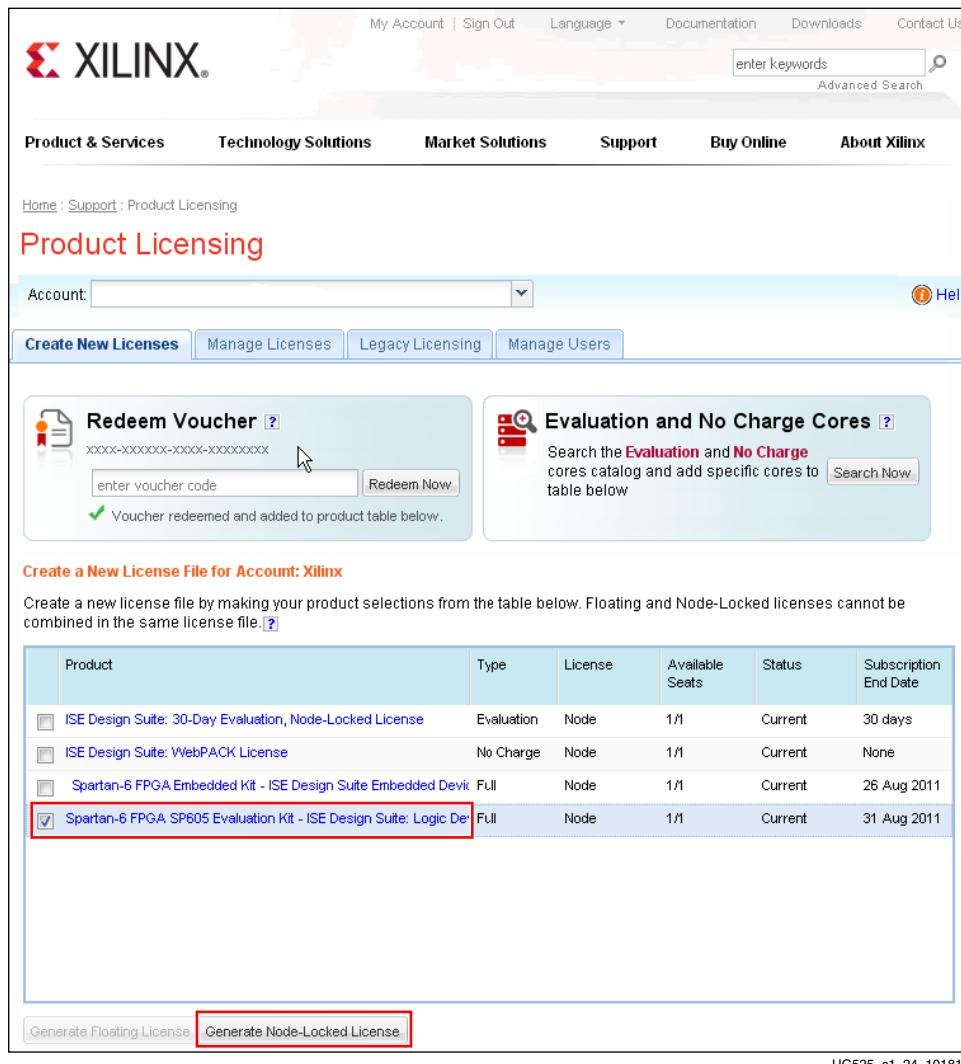

Figure 1-64: Generate License
The software represented by the voucher code is added to the product table and is selected (checked) for licensing as shown in Figure 1-64.
Note: The software descriptions shown in Figure 1-64 are examples and might differ from the descriptions shown on the actual page.
5. Click **Generate Node Locked License** at the bottom of the page to start the license generation flow (Figure 1-64).